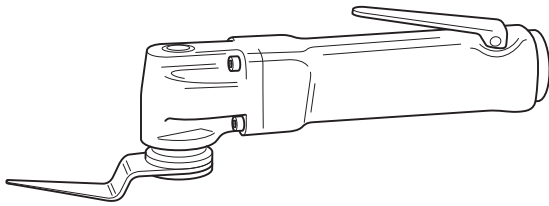

Fig 4. Pneumatic Knife
- a Pneumatic Knife. → Fig 4. \(B-43\). This provides one of the easiest methods of removing the sealant around laminated glass. The tool, powered by compressed air, should be sourced locally.